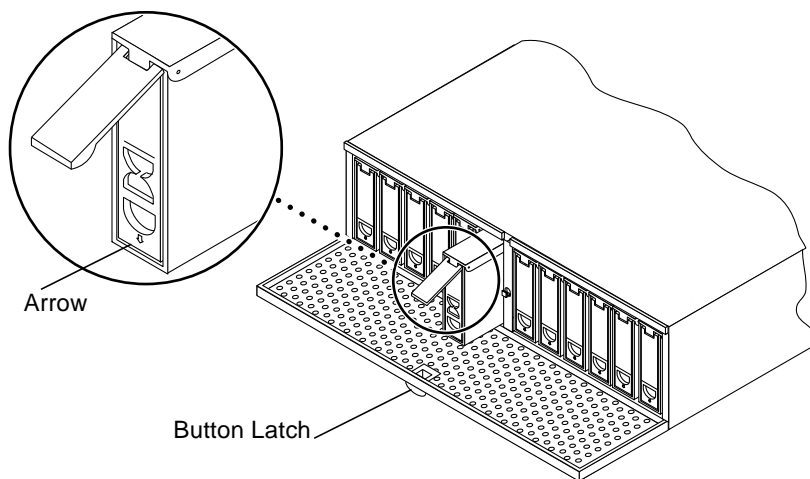

FIGURE 3-1 Removing and Replacing a Disk Drive
Push down the button latch at the center of the door (FIGURE 3-1).
3. **Unlatch the drive bracket handle to release it (FIGURE 3-1).**
1. **Hold the locking handle on the disk drive open (FIGURE 3-1).**